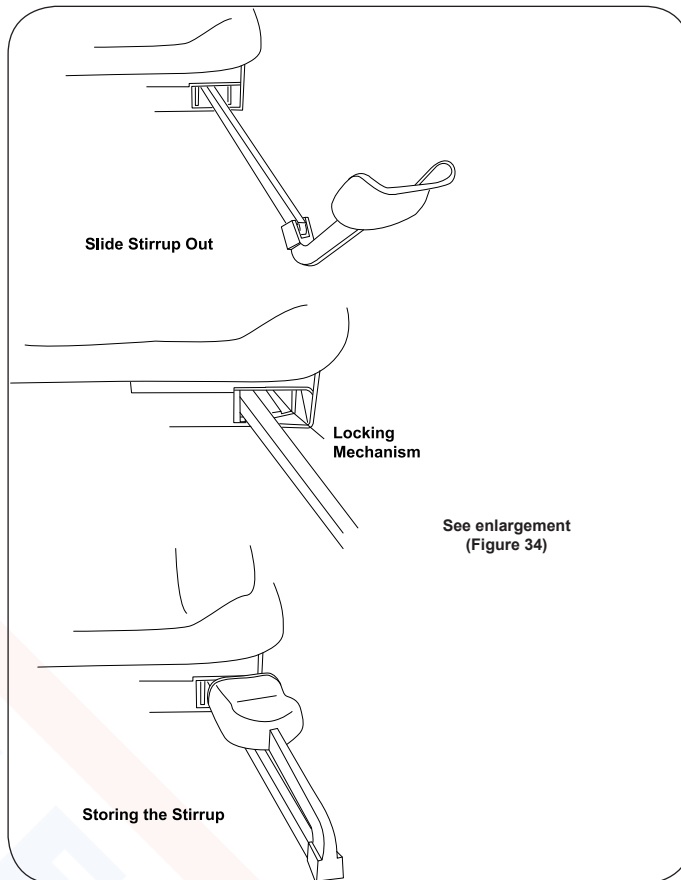

Figure 31. Stirrups
Operating the Stirrups (Figure 31)
2. When the desired position is achieved, lower the stirrup to engage the lateral locking mechanism (Figures 31 and 32).
<p>Fall Hazard</p> <p>Failure to engage the lateral locking mechanism could allow patient to lose balance resulting in personal injury to patient (Figures 31 and 32).</p>